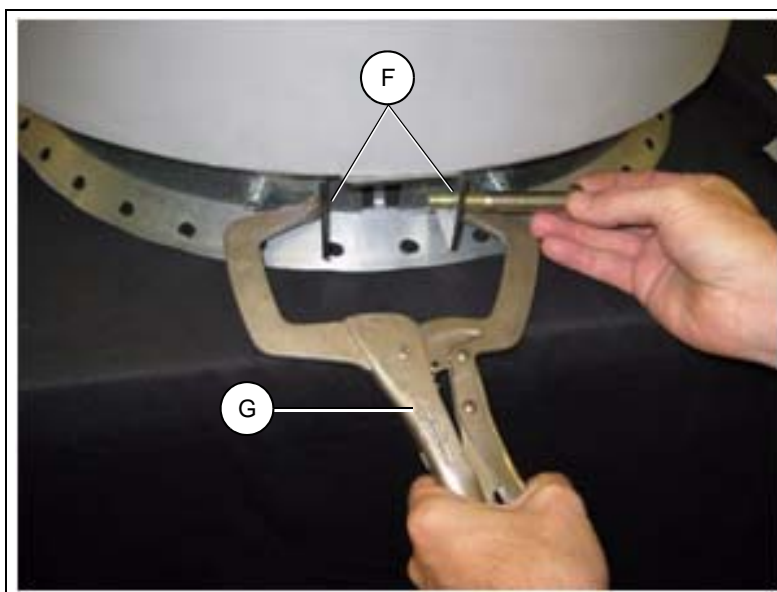
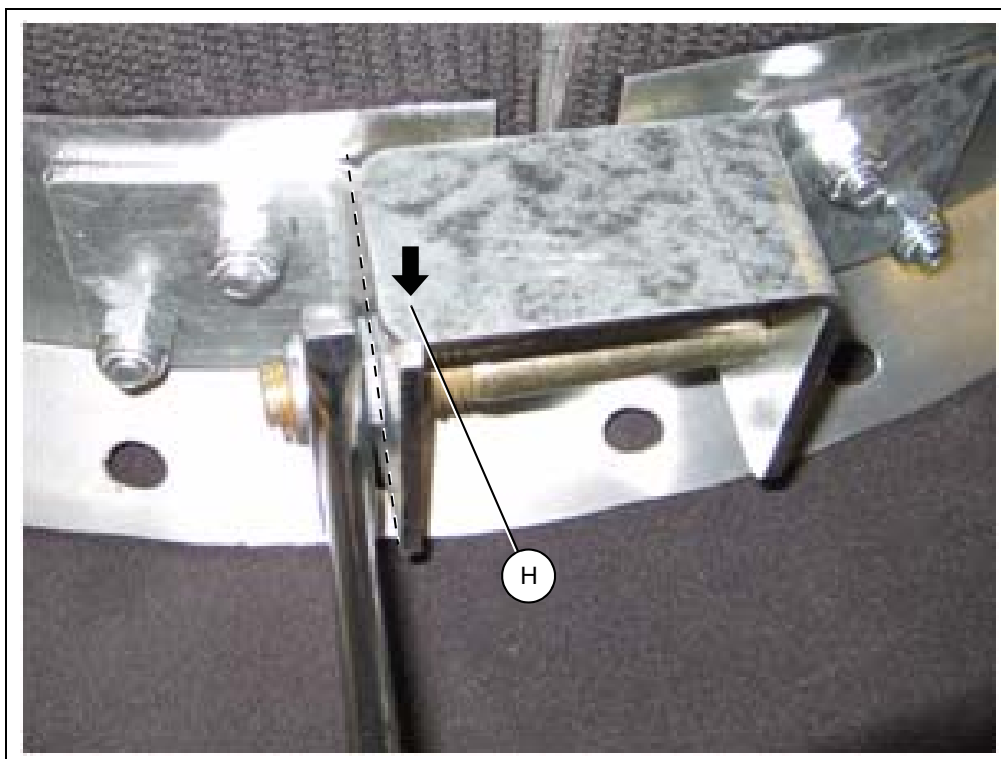

Figure 11C Mount Lid to Peak Ring
Figure 11E *Tighten Bolts Until Flush with Bracket*
2. Place the lid assembly over the existing peak ring collar and rotate lid assembly such that the lever arm and spring hinge line up with the roof eave bracket, See Figure 11A on Page 54. Use a clamp to pull the mounting brackets together. Slide the 3/8" carriage bolt supplied through the mounting bracket and loosely fasten with nut, See Figure 11C. Remove clamp and tighten the bolt with 9/16" ratchet, ensuring that the vertical flange tightens past the left edge of the top, horizontal flange, See Figure 11E on Page 56.